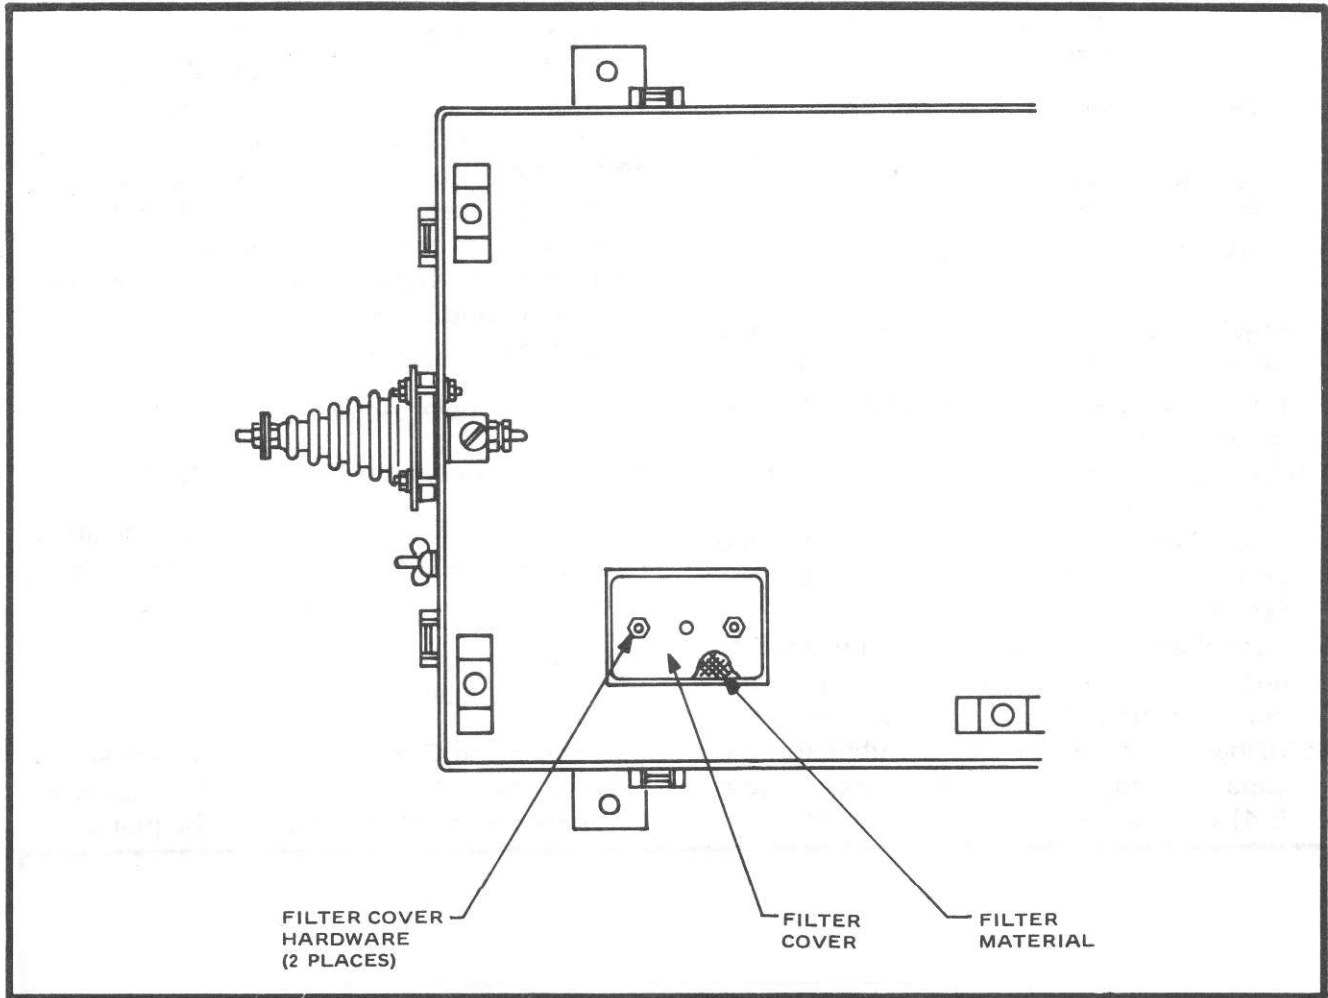

Figure 5.3 Breather Filter Assembly
- 4) Refer to Figure 5.3 and remove the hardware and cover holding the foam filtering material. Clean this foam with plain soap and water. After the filter is dry, place it back into position, replacing the cover and the hardware.